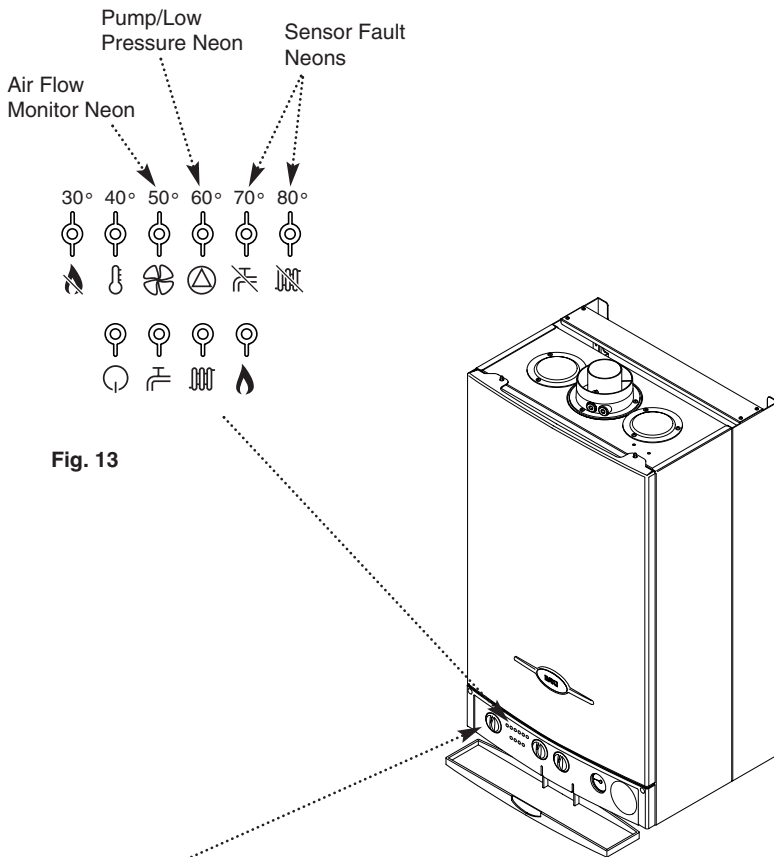

Fig. 13
2. If the neon illuminates () it indicates that the flue or flue terminal is blocked or obstructed in some way, or that there is an internal fault. If there is no external blockage of the flue terminal that can be easily removed contact your Service Engineer (Fig. 13).
1. The neon () will illuminate if the circulating pump is faulty or the system pressure drops below the minimum requirement (Fig. 13).
1. When the () or () neon is illuminated a fault on the hot water or central heating temperature sensor is indicated (Fig. 13). Contact your Service Engineer.